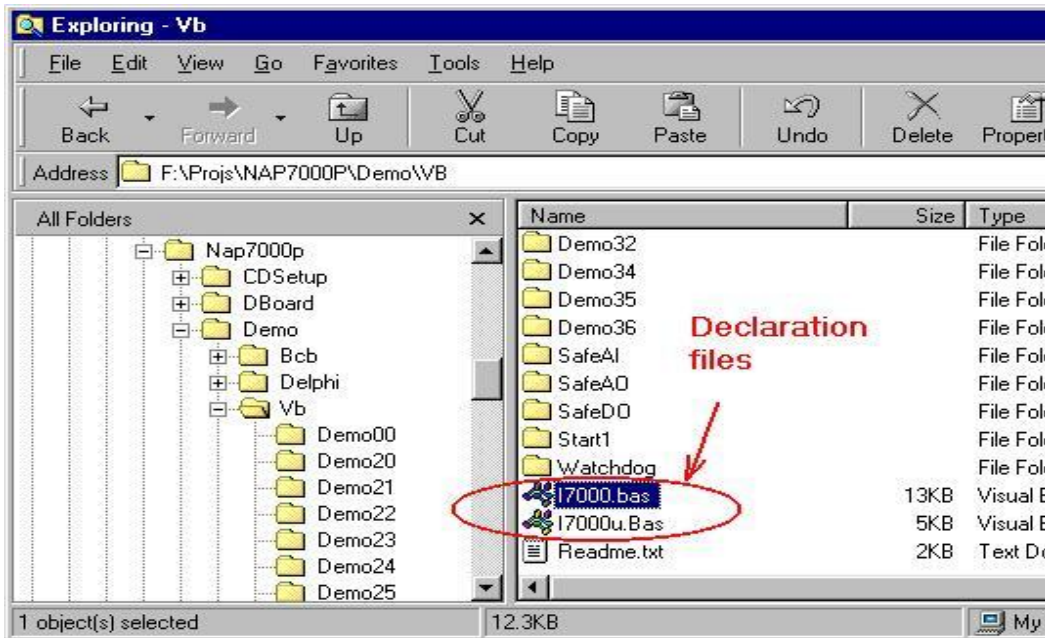

Figure 3-1-1. Declaration files for Visual Basic.
- Copy the declaration files into user's project folder. Refer to Figure 3-1-1.